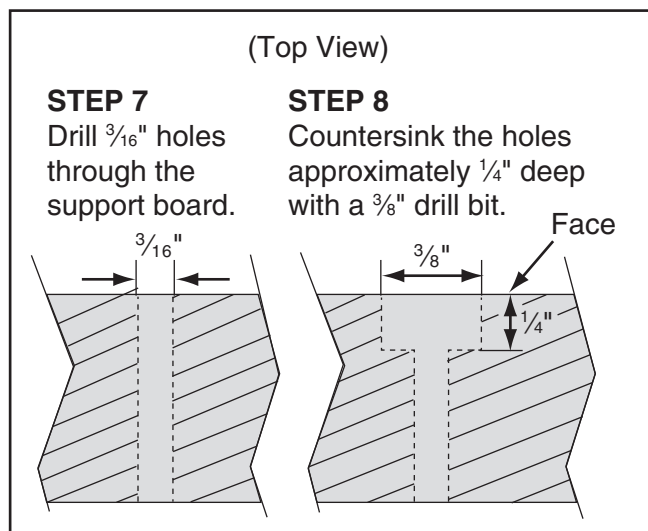

Figure 19. Steps for drilling and countersinking screw holes into support board.
8. Countersink the holes in the face of the support board approximately $\frac{1}{4}$ " deep with a $\frac{3}{8}$ " drill bit, as shown in **Figure 19**.